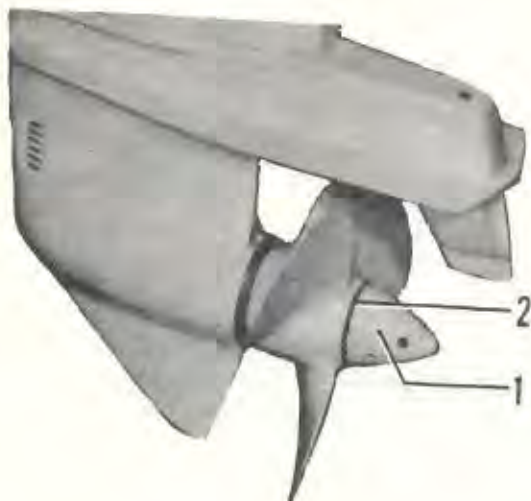

Fig. 13. Changing propeller
1. Knock up the tabs on the lock washer (2, Fig. 13) for the propeller cone.
2. Unscrew the propeller cone (1) with the help of a screwdriver which is pushed in through the hole in the propeller cone. Then pull off the propeller. Note the spacer ring inside the propeller.